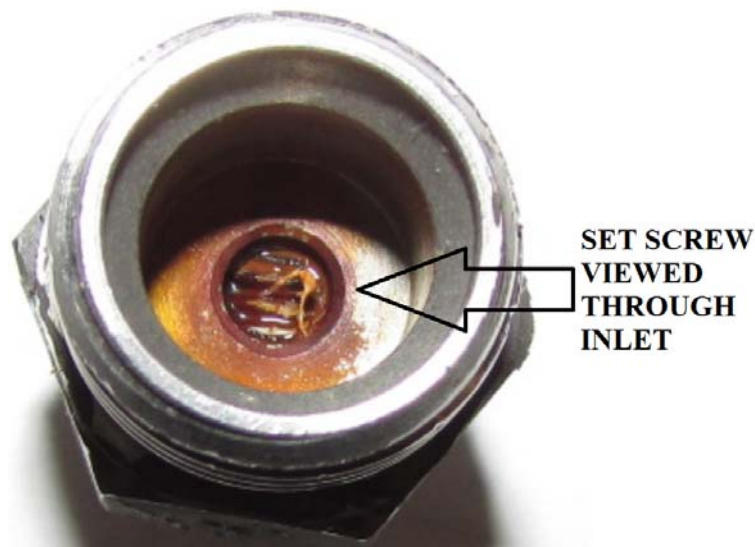

Figure 1. View of Inlet Connector Showing Corroded Set Screw
- (1) Gain access to the Porous Panel inlet connector by (Refer to AMM).
- (2) Inspect set screw through inlet connector using mirror and/or light source if required. Check for signs of corrosion/rust (ref. Figure 1).
- (3) If signs of corrosion exist carry out procedure according to Section 3.B. If no corrosion is evident, this Service Bulletin has been complied with, and no further action is required.
- (4) Refit pipeline. Restore aircraft in accordance with AMM.
- (3) Fill Test Cart with Test Fluid.
- (4) Verify test set-up and fluid viscosity by connecting Test Cart outlet tube to the CAP50 calibrated restrictor with the pressure gauge teed in at a location upstream of and close to the restrictor (ref. Figure 1). Apply fluid to the restrictor at 3 +/- 0.1 psi. Using a measuring cylinder of an appropriate range collect fluid over a timed period of 1 minute to obtain the flow rate. Confirm this flow rate is 50ml/min +/- 5%. If this flow rate is not achieved, check fluid viscosity and test set-up. Revise fluid mixture and/or test set-up and re-check flow rate through restrictor until required flow rate is obtained.
- (5) Connect Test Cart outlet tube to the Panel inlet with the pressure gauge teed in at a location upstream of and close to the inlet fitting (ref. Figure 1).
- (6) Position trough or similar beneath Porous Panel to collect fluid.
- (7) Apply pressure to Panel inlet. Gradually increase the pressure to 60 +/- 0.2 psi and maintain for 5 minutes to purge any air from the Panel membrane.
- (8) Reduce pressure so that the gauge reads 3 +/- 0.1 psi and collect fluid in a measuring cylinder of the appropriate range over a timed period of 1 minute to obtain the flow rate.
- (9) Recheck viscosity and density of collected fluid and correct value measured at 3.C.(8) to find the normalised flow rate according to the following calculation: